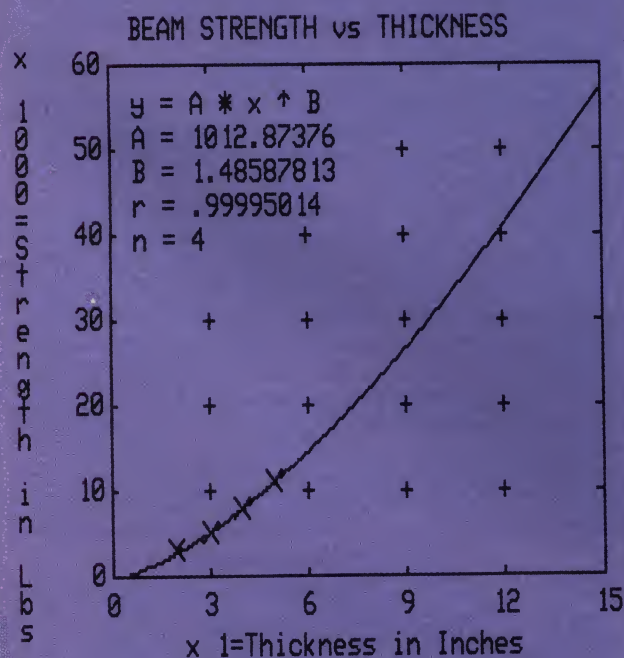

Fig. 1. Output Data
- Press P to get a copy of the input data. (See top of Fig. 1.)
a label for instance—press 2. This returns you to the regression-analysis portion of the program so that you can repeat the graph with the input data already stored in memory. Pressing 3 gives you a printout of the equation, its constants, and X and Y data points for the curve. (See the middle of Fig. 1.) With this information you can plot the curve by hand.
Run Hardcopy once it is loaded and sit back and watch your printer. It should take about seven minutes to get a graph like the one at the bottom of Fig. 1.